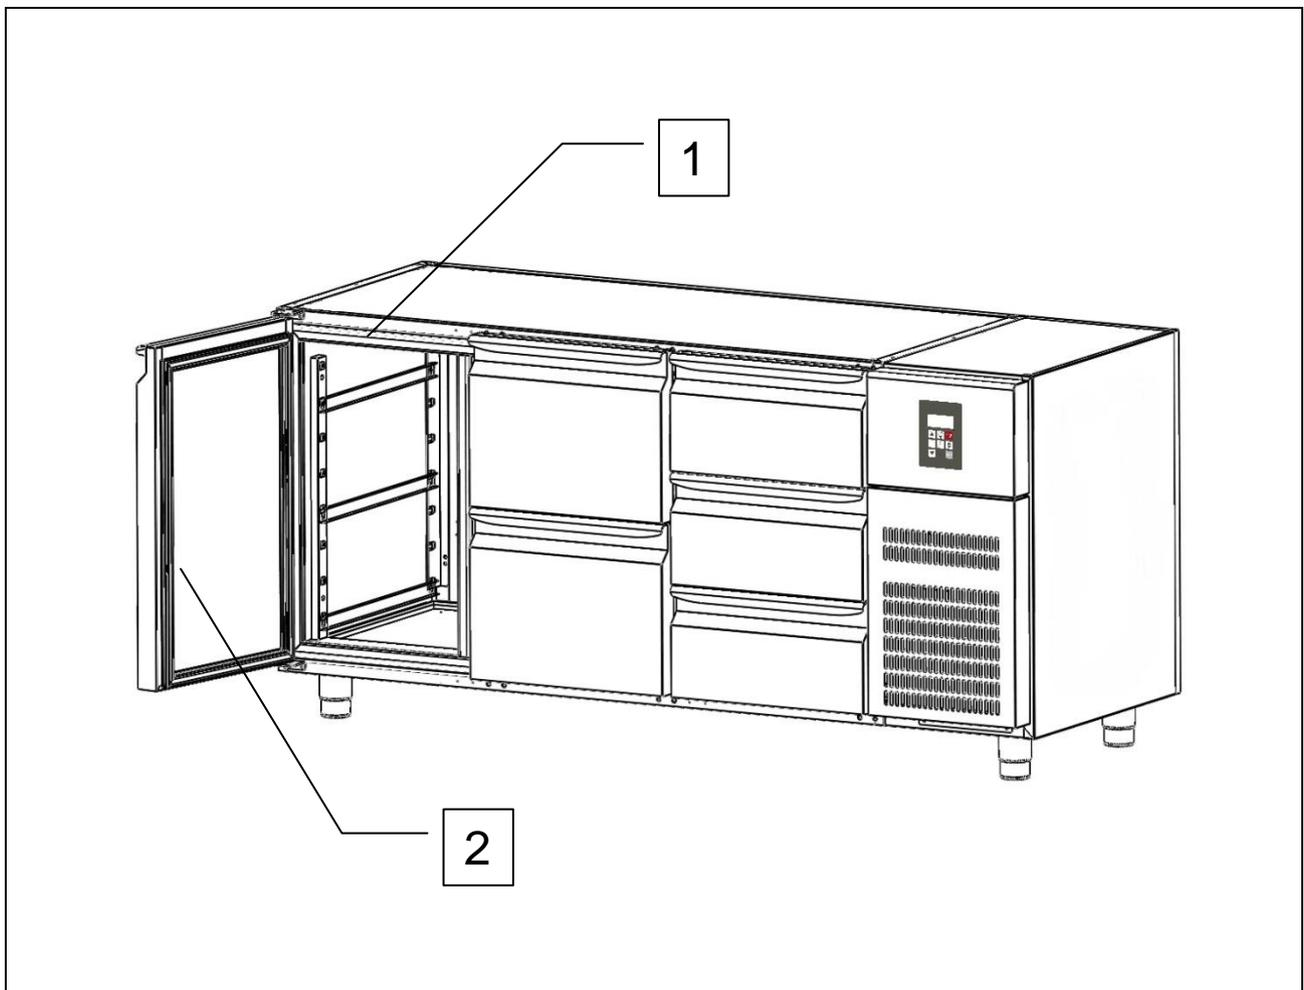

Fig. 8
Carefully clean the cabinet interior, the contact surfaces of where the door closes (ref. 1 fig. 8) and the gasket (ref. 2 fig. 8) using a sponge soaked with neutral detergent, neither of which must be abrasive. Rinse thoroughly using a clean sponge soaked with water and then wipe dry using a clean cloth.